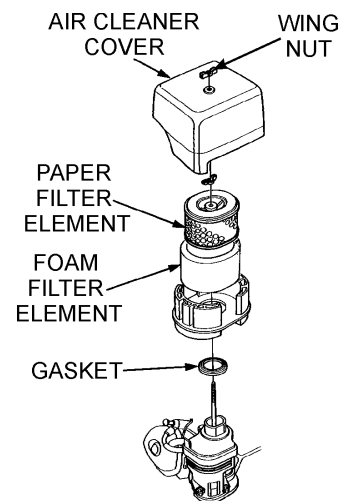

Figure 23. Engine Air Filter
1. Remove the air cleaner cover and foam filter element as shown in Figure 23.
2. Tap the paper filter element (Figure 23) several times on a hard surface to remove dirt, or blow compressed air [not exceeding 30 psi (207 kPa, 2.1 kgf/cm²)] through the filter element from the air cleaner case side. **NEVER** brush off dirt. Brushing will force dirt into the fibers. Replace the paper filter element if it is excessively dirty.